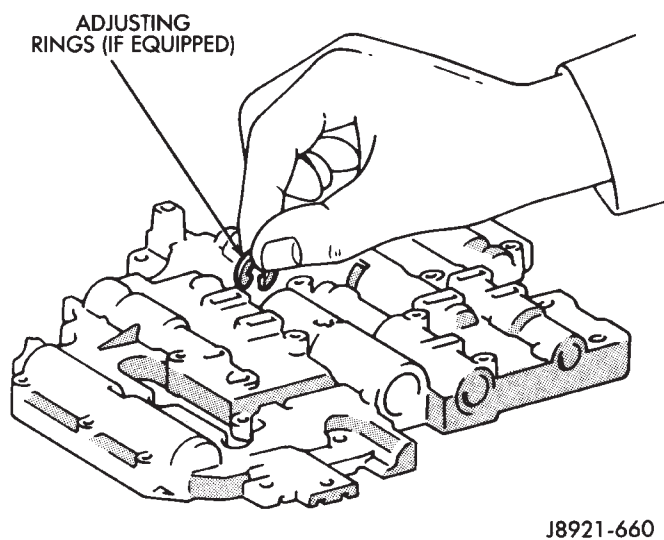

Fig. 17 Install Throttle Valve Adjusting Rings (If Equipped)
(12) On models with adjusting rings, turn upper body over and install adjusting rings (Fig. 17). Be sure to install same number of rings as were removed.